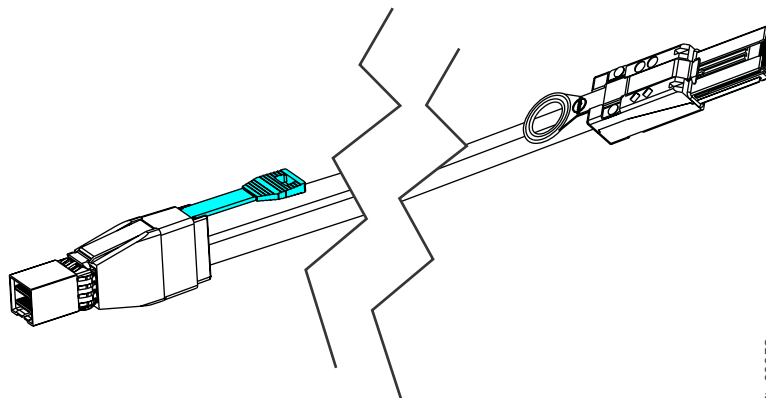

Figure 33. Mini SAS HD to Mini SAS cable
- Mini SAS HD to Mini SAS (Figure 33)